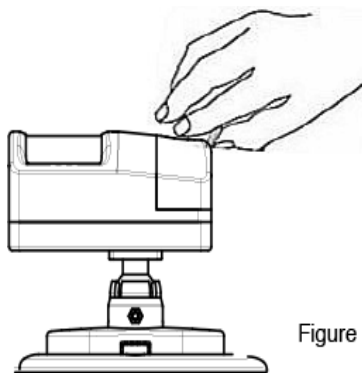

Figure 3
6. Remove the small cover plate (illustrated in Figure 3).
7. Locate the adjustment knob on the control panel to perform test and adjustment (illustrated in Figure 3 and 4).